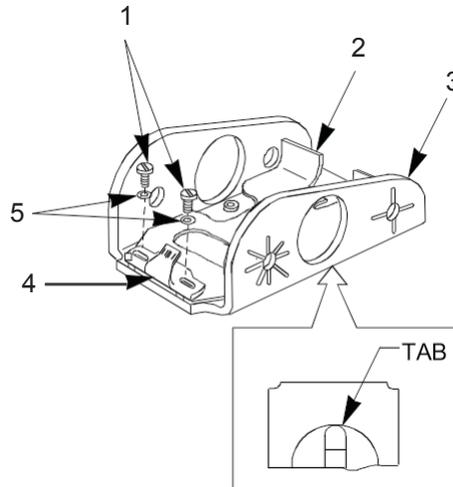

Figure 31. Slack Plate, Windage Scale, Rear Sight Base.
1. Center slack plate (Figure 31, Item 2) and windage scale (Figure 31, Item 4) on rear sight base (Figure 31, Item 3) and install two new washers (Figure 31, Item 5) and two screws (Figure 31, Item 1) into rear sight base (Figure 31, Item 3), and tighten securely.